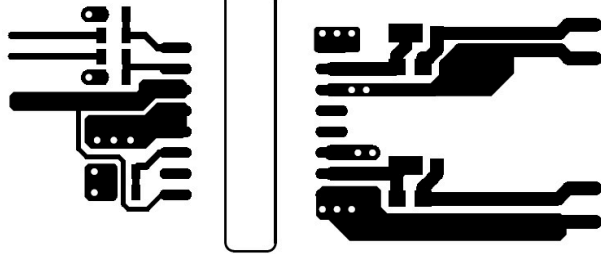
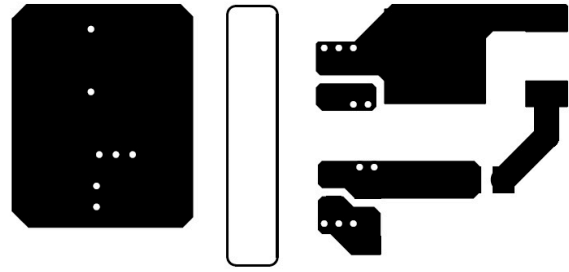

Figure 11-2. Top Layer Traces and Copper
Figure 11-3. Bottom Layer Traces and Copper
- Increasing the PCB copper connecting to VDDA, VDDB, VSSA and VSSB pins is recommended, with priority on maximizing the connection to VSSA and VSSB (see Figure 11-2 and Figure 11-3). However, high voltage PCB considerations mentioned above must be maintained.
Figure 11-2 and Figure 11-3 shows top and bottom layer traces and copper.